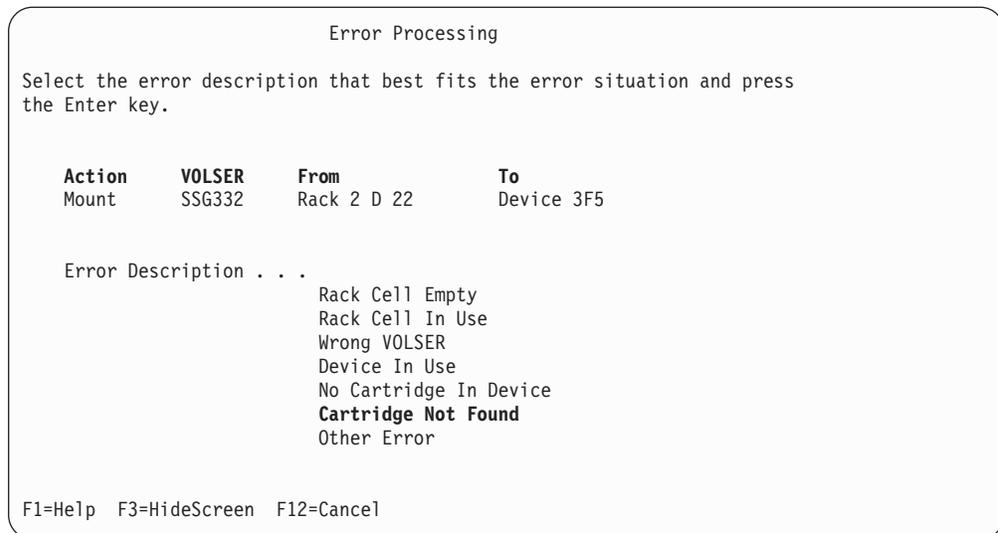

Figure 147. Manual Mode Error Processing Screen
3. Select the error description that best fits the problem. Use the up arrow (↑) or down arrow (↓) key to highlight the error description (see Figure 147 on page 238).